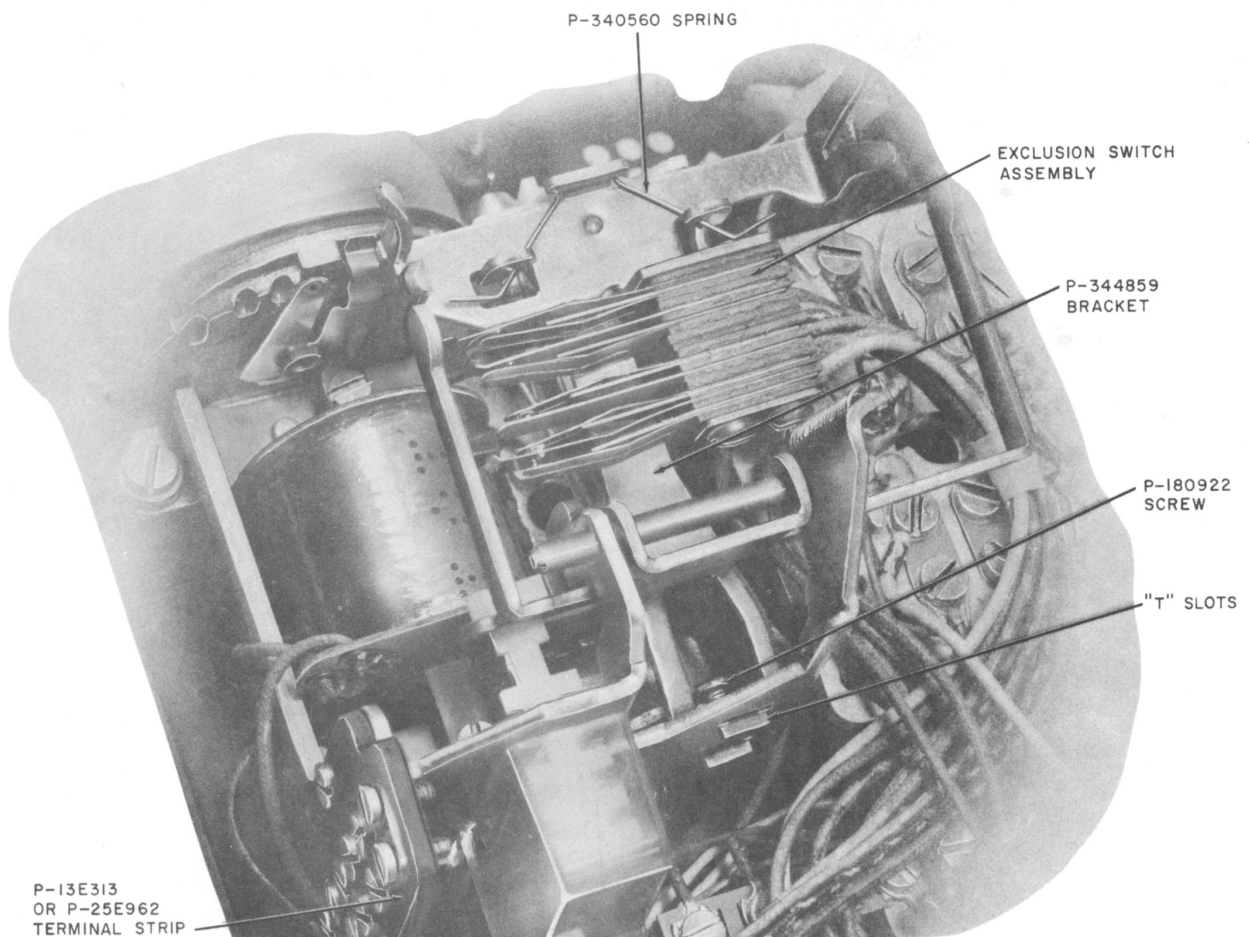

Fig. 12—D-179955 Kit of Parts, Installed
2.03 A D-179935 Kit of Parts (ordered separately) may be installed in the 563HB telephone set when the exclusion feature is required (Fig. 12).
- (1) Insert the P-344859 bracket into the two T slots precut in the line switch bracket (Fig. 12).
- (2) Tighten the P-180922 screw which holds the bracket in the T slots.
- (3) Mount the P-340560 spring and exclusion switch assembly on the bracket (Fig. 12).
- (4) Remove the P-13E953 plunger from the left side of the telephone set housing and replace it with the P-14A613 exclusion plunger.